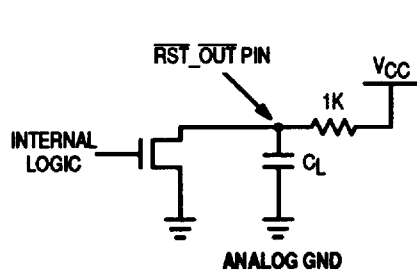

Figure 4. RST_OUT Test Circuit
- The RST_OUT pin is an open drain N-Channel output. Therefore an external pull-up resistor must be provide to pull up the RST_OUT pin when it goes into the high impedance state (after the MC88916 is phase-locked to the reference input with RST_IN held high or 1024 'Q' cycles after the RST_IN pin goes high when the part is locked). In the t_{PLZ} and t_{PZL} specifications, a 1K Ω resistor is used as a pull-up as shown in Figure 4.